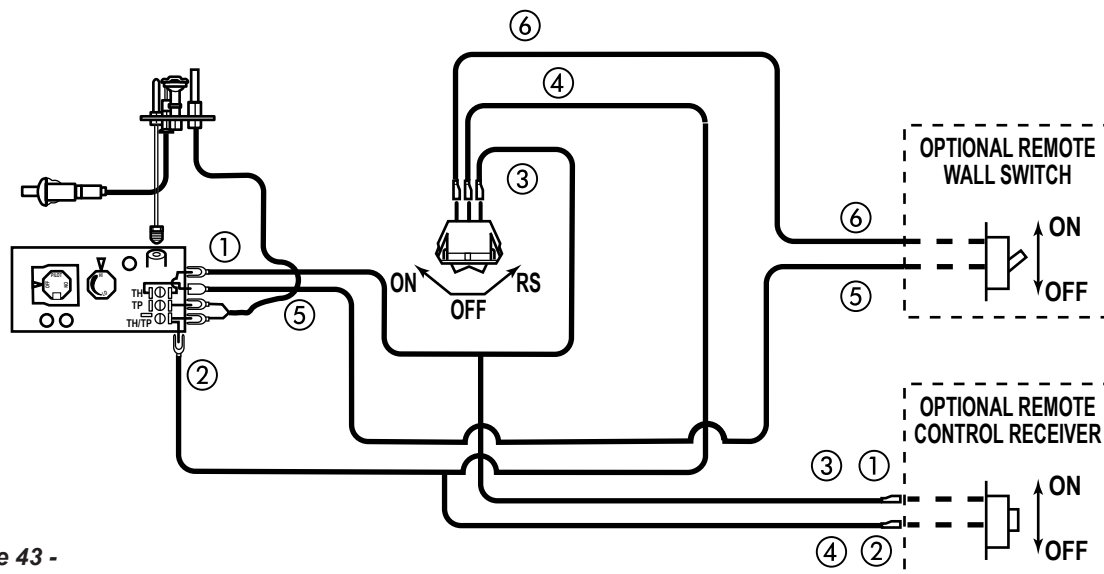

Figure 43 -
A remote wall switch and up to fifteen (15) feet of 18 Ga. wire may be used with this appliance. Attach the wall switch in a junction box at the desired location on the wall. *Figure 43*. Do not extend beyond the wall switch wire length provided.
3. Connect the wire terminal from the remote receiver. *Figure 43*